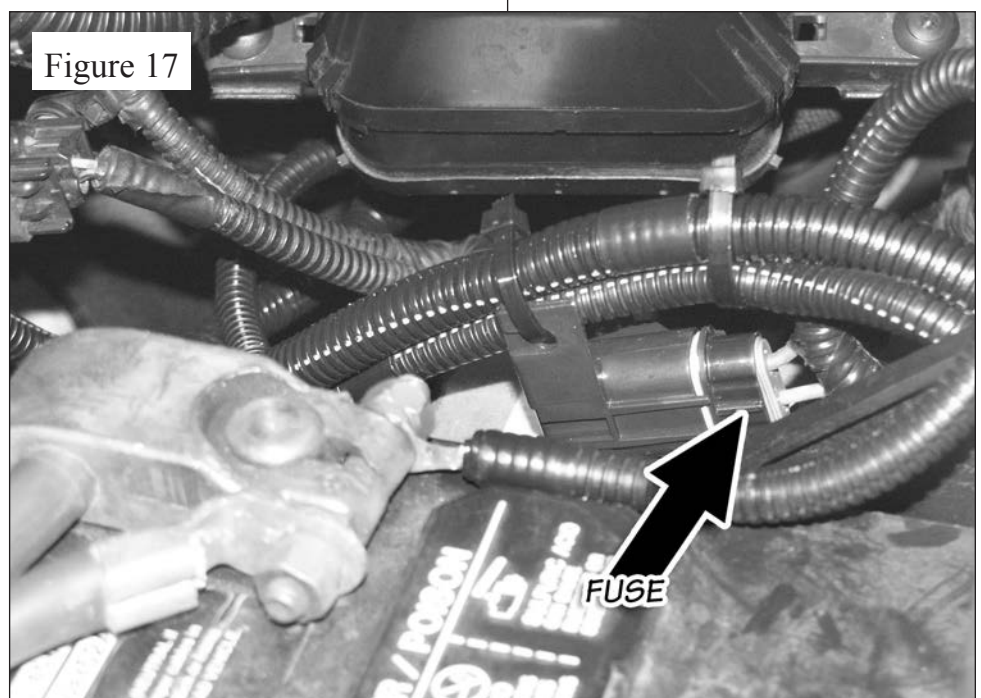

Figure 17
**60.** Locate the fuse on the compressor wire harness. Use cable tie to securely mount it on the wire harness as shown in **Figure 17**. Assemble the compressor pump air filter to the straight push lock fitting using the provided coupling.